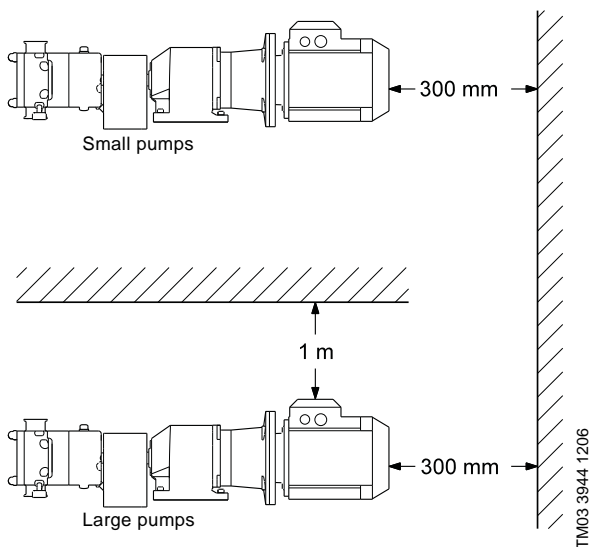

Fig. 23 Clearance requirements
- Small pumps that can be handled by hand require a 300 mm clearance behind the pump/motor. See fig. 23.